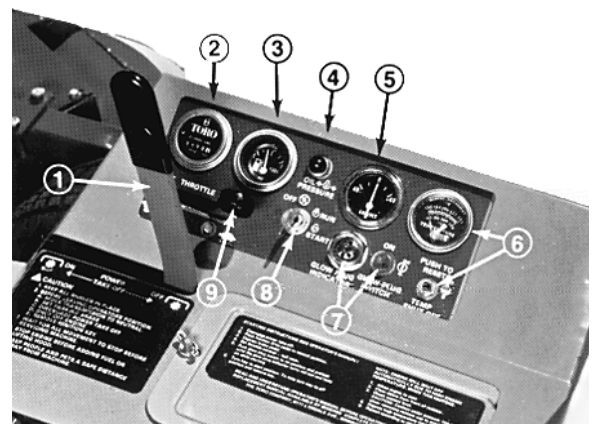

Figure 7
1. Ensure the parking brake is set, the PTO lever is in the OFF position (Fig. 7) and the lift lever is in the TRANSPORT or FLOAT position (Fig. 6). Remove your foot from the traction pedal and make sure it is in neutral.
2. Move the throttle control (Fig.7) to the full FAST position.
4. Turn the key to START (Fig. 7). Release the key immediately when the engine starts and let it return to RUN. Move the throttle control to SLOW.